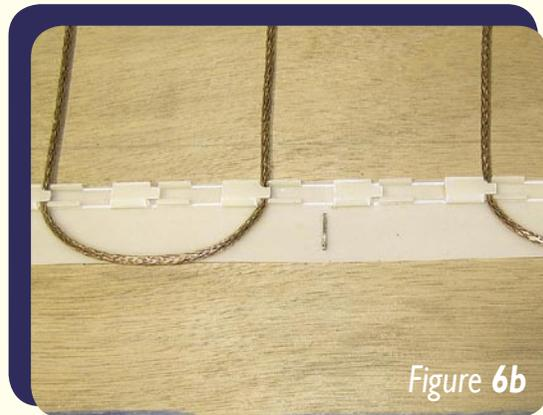

Figure 6b
- It is recommended to install the cable without closing the clips until you reach the *End of Run* of the cable layout. If any adjustment in cable spacing is required, it is easier done without having to unlock each of the locking clips. Once the cable layout is complete, close all of the hinged clips. When you hear the locking feature “click”, the cable will be firmly held under the “EasyLock” positive locking system (**Figure 6b**).